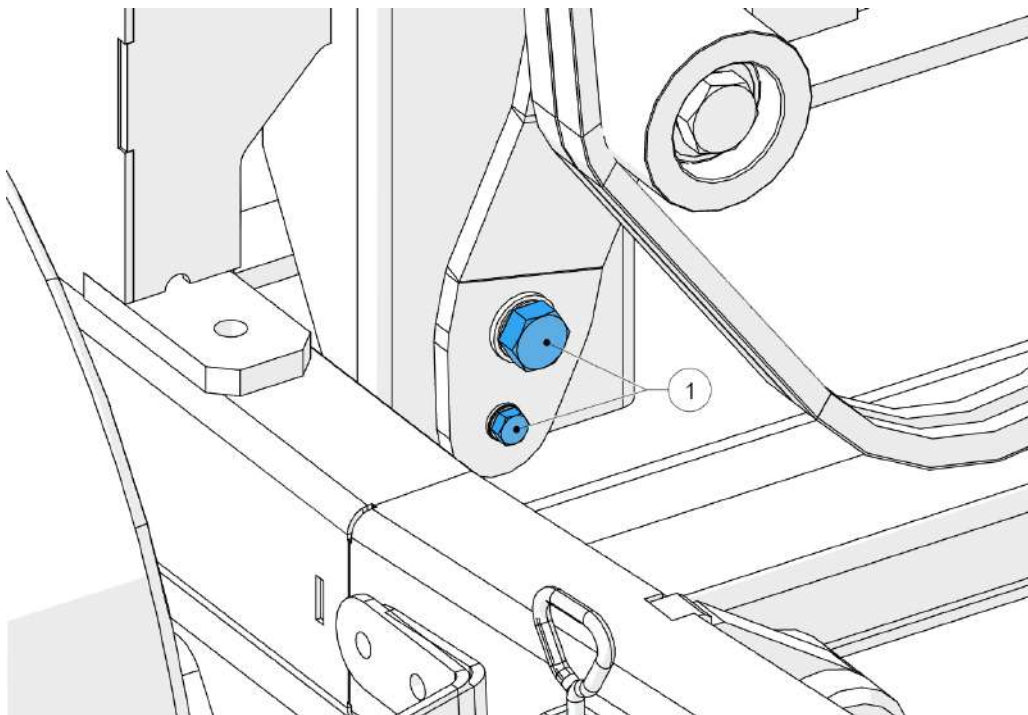

Figure 74 - Main belt tensioner
4. Locate the main belt tensioner (1, Figure 74).